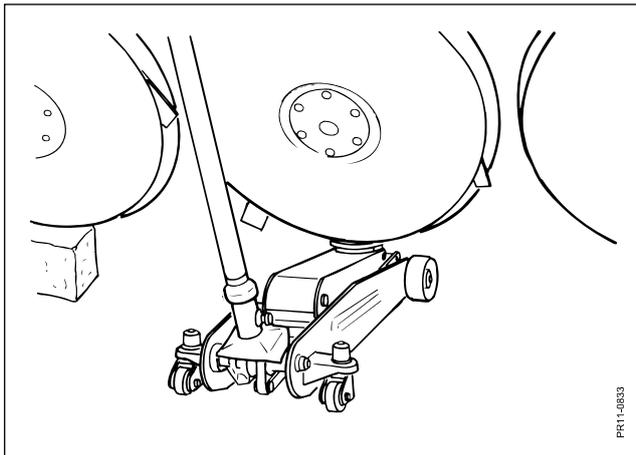

Fig. 5-5
- Fig. 5-5** until you can place a block under one of the outermost rotor skirts. Then move the jack to the edge of the rotor skirt